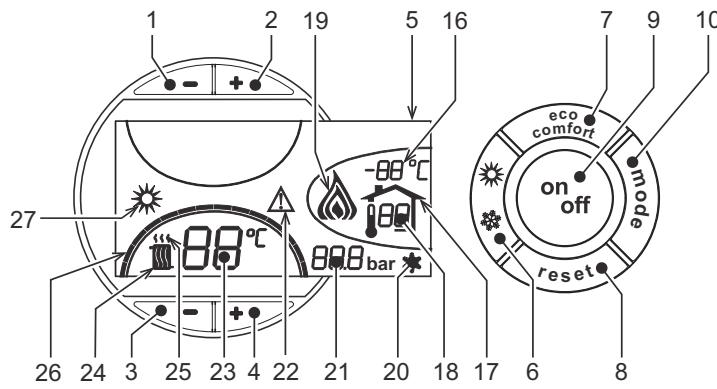
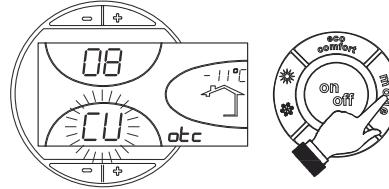
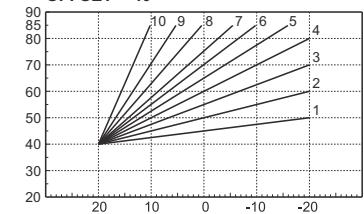

fig. 1 - Control panel
fig. 9 - Compensation curve
fig. 12 - Example of compensation parallel curve offset
Press the on/off button (detail 9 - fig. 1) for 1 second.
When the boiler is turned off, the electronic board is still powered. Heating operation is disabled. The antifreeze system remains activated. To relight the boiler, press the on/off button (detail 9 - fig. 1) again for 1 second.
- Press the ON/OFF button (9 - fig. 1)
Press the **summer/winter** button (detail 6 - fig. 1) for 1 second.
The display activates the Summer symbol (detail 27 - fig. 1): the boiler will only deliver domestic hot water. The antifreeze system remains activated.
To deactivate the Summer mode, press the **summer/winter** button (part. 6 - fig. 1) again for 1 second.
Use the **heating buttons** (details 3 and 4 - fig. 1) to adjust the temperature from a min. of 30°C to a max. of 80°C.
Use the DHW buttons **-/+** (details 1 and 2 - fig. 1) to adjust the temperature from a min. of 10°C to a max. of 65°C.
When the optional external probe is installed the control panel display (detail 5 - fig. 1) shows the actual outside temperature read by the probe. The boiler control system operates with "Sliding Temperature". In this mode, the temperature of the heating system is adjusted according the outside weather conditions, in order to ensure high comfort and energy saving throughout the year. In particular, as the outside temperature increases, the system delivery temperature is decreased according to a specific "compensation curve".
With Sliding Temperature adjustment, the temperature set with the heating buttons **-/+** (details 3 and 4 - fig. 1) becomes the maximum system delivery temperature. It is advisable to set a maximum value to allow system adjustment throughout its useful operating range.
Press the **mode** button (detail 10 - fig. 1) once to display the actual compensation curve (fig. 9), which can be modified with the **DHW buttons** (details 1 and 2 - fig. 1).
Press the **heating buttons** (details 3 and 4 - fig. 1) to access parallel curve offset (fig. 12), modifiable with the **DHW buttons** (details 1 and 2 - fig. 1).
Press the **mode** button (detail 10 - fig. 1) again to exit parallel curve adjustment mode.
If the Remote Timer Control (optional) is connected to the boiler, the above adjustments are managed according to that given in table 1. Also, the control panel display (detail 5 - fig. 1) shows the actual room temperature detected by the Remote Timer Control.
Eco/Comfort selection	On disabling DHW from the Remote Timer Control menu, the boiler selects the Economy mode. In this condition, the button 7 - fig. 1 on the boiler panel is disabled. On enabling DHW from the Remote Timer Control menu, the boiler selects the Comfort mode. In this condition it is possible select one of the two modes with the button 7 - fig. 1 on the boiler panel.